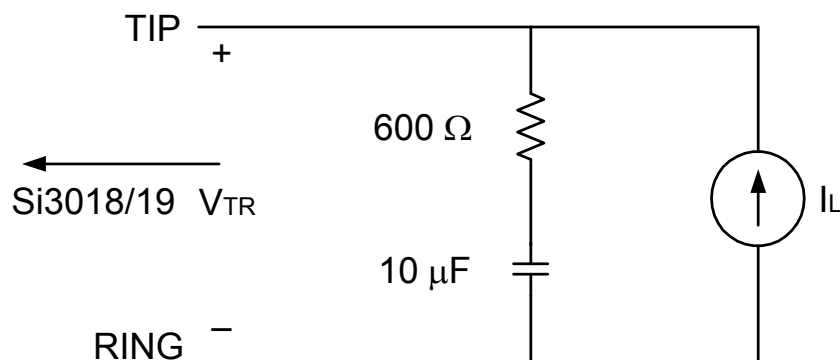

Figure 1. Test Circuit for Loop Characteristics
($V_D = 3.0$ to 3.6 V, $T_A = 0$ to 70 °C for K-Grade, see Figure 1 on page 6)
1. Measured at TIP and RING with 600Ω termination at 1 kHz, as shown in Figure 1 on page 6.